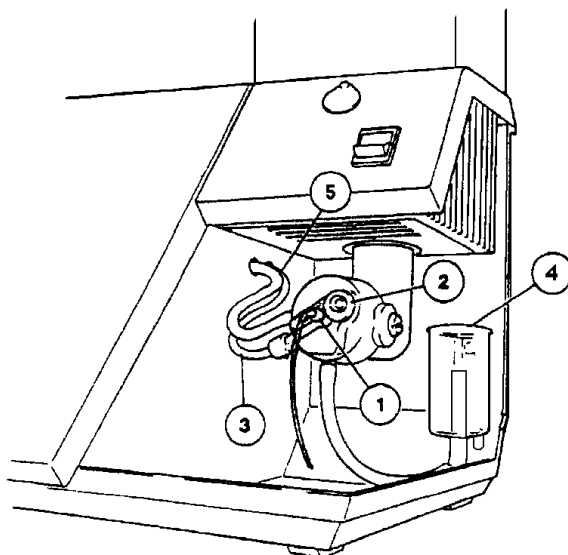

Figure 2.1 Mixing Chamber
3. Remove the Nebuliser (420 08 102) from its box and push the barbed connector into the end of the air tubing (item 3, figure 2.1). Fit the Nebuliser (item 1, figure 2.1) to the mixing chamber and position the retainer (item 2, figure 2.1) to lock it into position. Locate the Nebuliser inlet tubing (400 22 003) and fit over the narrow tube in the front of the Nebuliser.